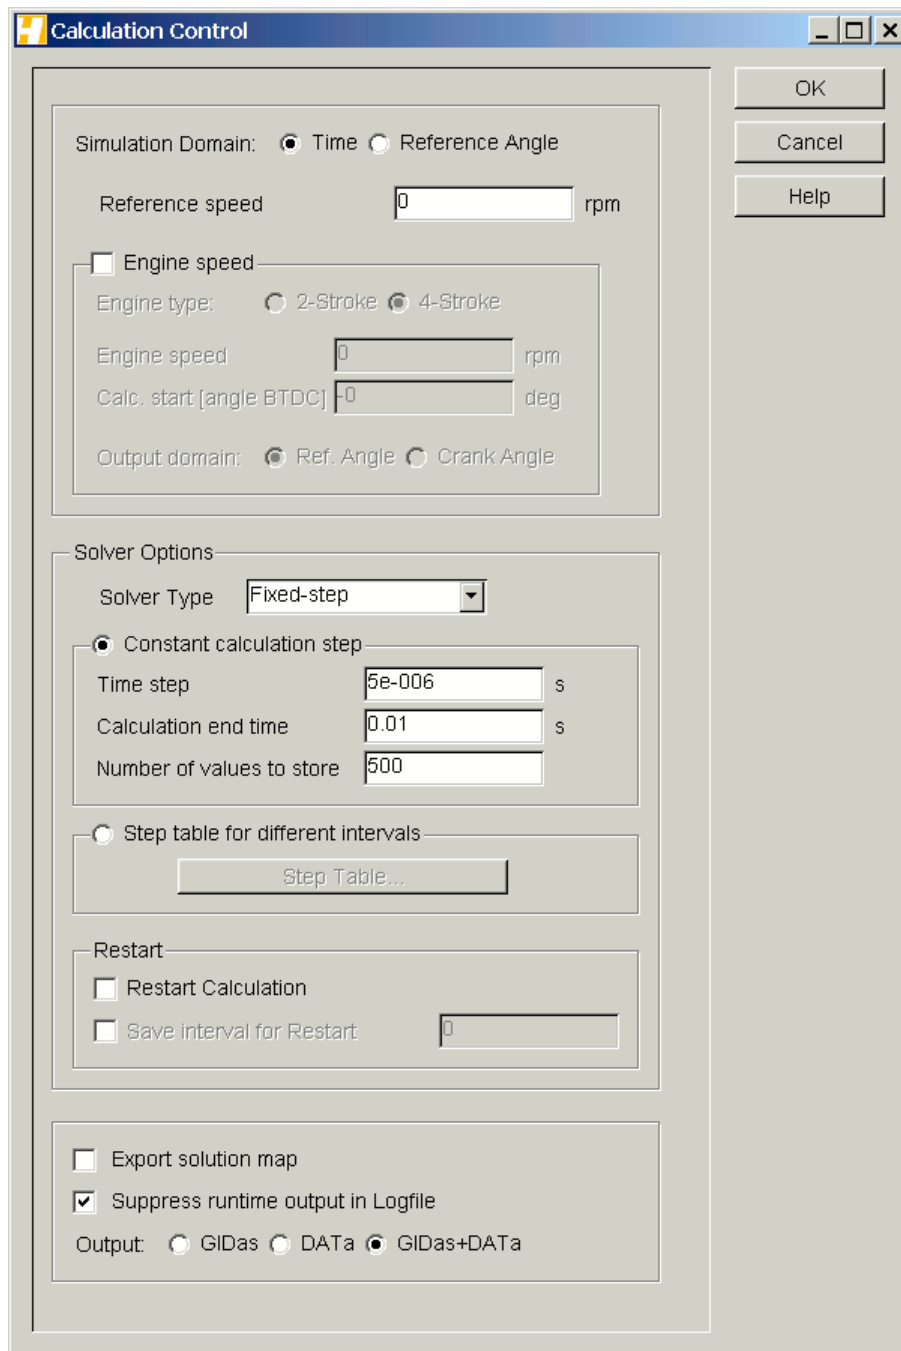

Figure 4-12: Calculation Control Dialog
- c) The table domain can be Time (default) or Reference angle (refer to Simulation Domain in the Calculation control window - *Figure 4-12*). This is performed by clicking the right mouse button on the appropriate field with unit (below Time/Ref. Angle) and select the desired domain (refer to the unit group **Simulation Period Units**). It should be emphasized that the domain definition applies only to the current element (data table). In addition, a scaling factor for the first column of the table can be activated and specified. After that the user must select which type of boundary condition is to be specified (coordinate or velocity) and in which direction (x, y, or w).